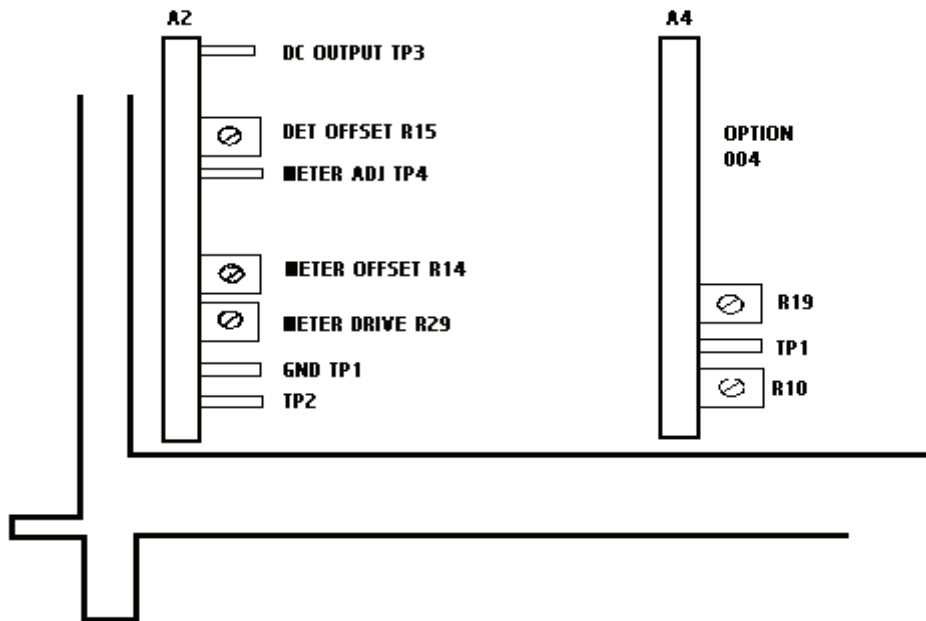
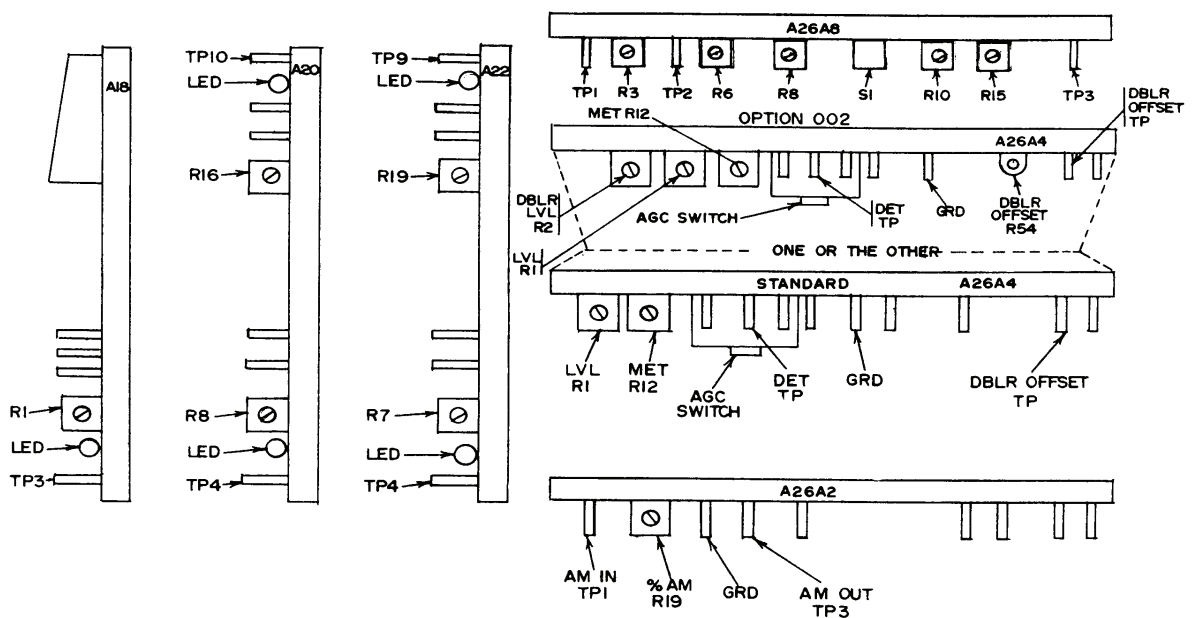
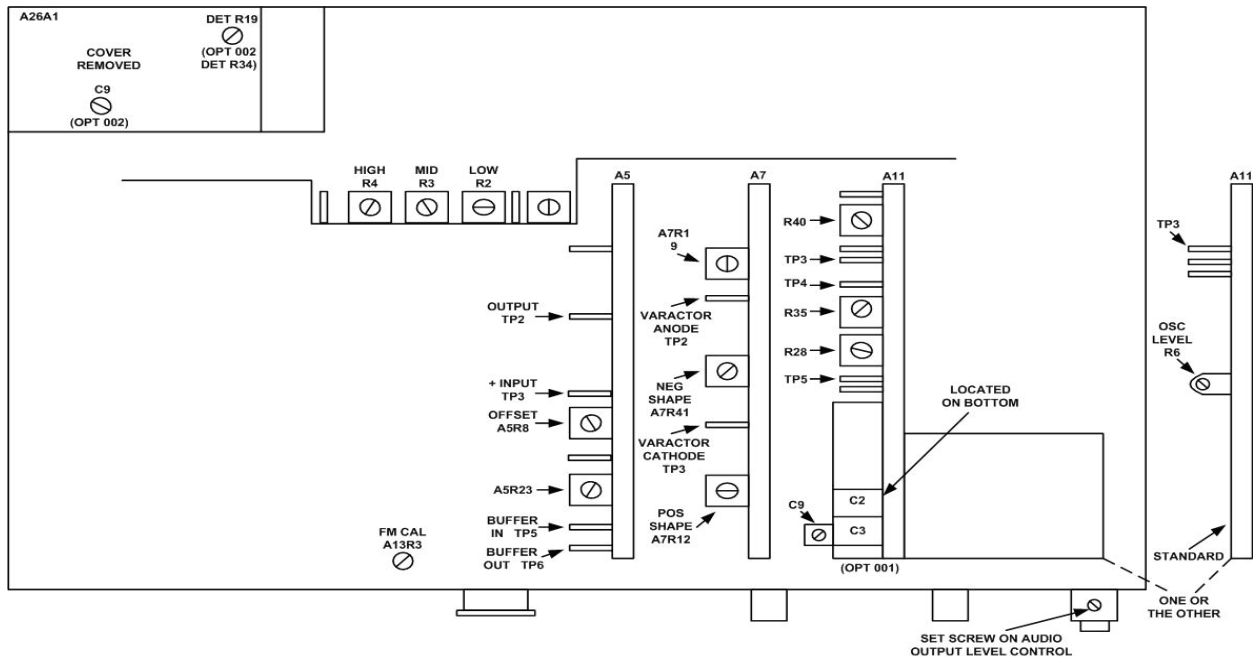

Figure 1. TEST instrument, top left hand side.
Figure 2. Test instrument - top back side.
Figure 3. TEST instrument - bottom view.
(1) Position controls as listed in (a) through (d) below:
(2) Connect multimeter **INPUT HI** to DC OUTPUT A2TP3 (fig. 1) and **INPUT LO** to GND A2TP1 (fig. 1). Adjust DET OFFSET A2R15 (fig. 1) for multimeter indication of 0.000 ±1 mV dc (R).
(3) Disconnect multimeter **INPUT HI** from DC OUTPUT A2TP3 and connect **INPUT HI** to METER ADJ A2TP4 (fig. 1).
(4) Adjust METER OFFSET A2R14 (fig. 1) for multimeter indication of 0.000 ±1 mV dc (R).
(5) Disconnect multimeter **INPUT HI** from METER ADJ A2TP4 (fig. 1) and connect **INPUT HI** to AM IN A26A2TP1 (fig. 2).
(6) Set **AM** switch to **INT** and adjust **AM** control for a multimeter indication of 0.707 V ac. Adjust **METER DRIVE** A2R29 (fig. 1) for **TI** meter indication of 10 on 0 to 10 scale (R).
(7) Adjust **AM** control for **TI** meter indications listed in table 13. Multimeter will indicate as specified; if not, readjust **METER DRIVE** A2R29 (fig. 1) for best in-tolerance condition.
(10) Set measuring receiver to measure AM with **AVG DETECTOR**.
(11) Adjust **AM** control for a measuring receiver indication of approximately 20%. Press measuring receiver **RATIO %** key.
(12) Adjust **OUTPUT LEVEL** vernier control(s) for a TI meter indication of **-7dB**.
(13) Adjust DET A26A1R19 (A26A1R34 for option 002) (fig. 3) for measuring receiver indication of 100% (R).
(14) Set **OUTPUT LEVEL** vernier control(s) fully cw.
(15) Measuring receiver will indicate between 99.5 and 100.5%, if not, repeat (11) through (14) above while readjusting A26A1R19 (A26A1R34 for option 002) (fig. 3) for best in-tolerance condition.
(16) Set **AM** switch to **OFF**.
(17) Set measuring receiver to measure RF power.
(18) For option 002 only, set DBLR OFFSET A26A4R54 (fig. 2) to mid-range.
(19) Adjust LVL A26A4R1 (fig. 2) for a +13.2 dBm measuring receiver indication (R).
(20) Adjust **OUTPUT LEVEL** vernier control(s) for a +13.0 dBm measuring receiver indication. Adjust MET A26A4R12 (fig. 2) for TI meter indication of +3 dB (R).
(21) For option 002, proceed to (22) below. For all other models, repeat **a** above.
(22) Set **RANGE MHz** switch to **1024-512** and adjust **FREQUENCY TUNE** control for **FREQUENCY MHz** display indication of 800 MHz.
(23) Adjust DBLR LVL A26A4R2 (fig. 2) for a +13.0 dBm measuring receiver indication (R).
(24) Set **RANGE MHz** switch to **64-32** and **FREQUENCY TUNE** for 50 MHz display indication. Adjust **OUTPUT LEVEL** vernier control ccw for a +3 dBm measuring receiver indication.
(25) Set **RANGE MHz** switch to **1024-512**. Adjust DBLR OFFSET A26A4R54 (fig. 2) for a +3 dBm measuring receiver indication (R).
(26) Set **RANGE MHz** switch to **64-32** and adjust **OUTPUT LEVEL** vernier control fully cw. If measuring receiver does not indicate +13.2 dBm, repeat (19) above.
(27) Repeat (20) through (26) above until measuring receiver indication at 800 MHz is within  $\pm 2$  dBm of the 50 MHz indication.
(28) Set **RANGE MHz** switch to **1024-512** and adjust **FREQUENCY TUNE** control for **FREQUENCY MHz** display indication of 700 MHz.
(29) Set **OUTPUT LEVEL** switch to **+20 dBm** and set **OUTPUT LEVEL** vernier control(s) fully cw. Adjust A26A1C9 (fig. 3) for maximum measuring receiver indication (not to exceed +17 dBm) (R).
(30) Position controls as listed in (a) through (e) below.
(33) Set pulse generator controls for a 0.5 ms pulse width with a 1 kHz rate. Adjust pulse generator output controls for TI meter indication of 40% (4 on 0-10 scale).
(34) Adjust oscilloscope controls as necessary to display detected RF output signal. Readjust A26A1C9 (fig. 3) slightly (if required) to limit ringing and eliminate oscillations as indicated on oscilloscope display.